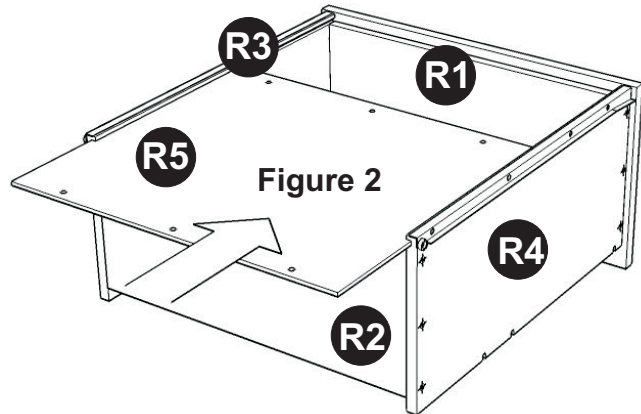

Figure 2
Insert Adjustable Pins into side panel and middle panel at the desired level (See figure 2), then place Shelf (M) into position.
Slide Q5 into the grooves in Q3 and Q4. Be sure to push Q5 all the way forward so it meets Q1. (see Figure 2)
Slide R5 into the grooves in R3 and R4. Be sure to push R5 all the way forward so it meets R1. (see Figure 2)